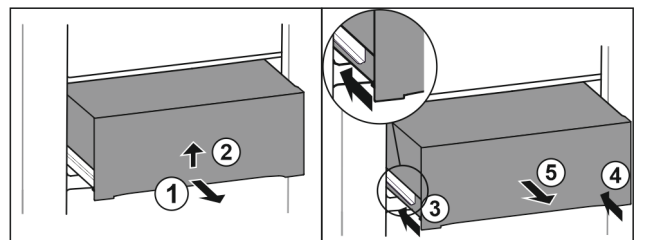

Fig. 40
- Pull out drawer half-way. Fig. 40 (1)
- Lift the drawer from the bottom. Fig. 40 (2)
- Insert left rail. Fig. 40 (3)
- Insert right rail. Fig. 40 (4)
- Remove drawer to the front. Fig. 40 (5)